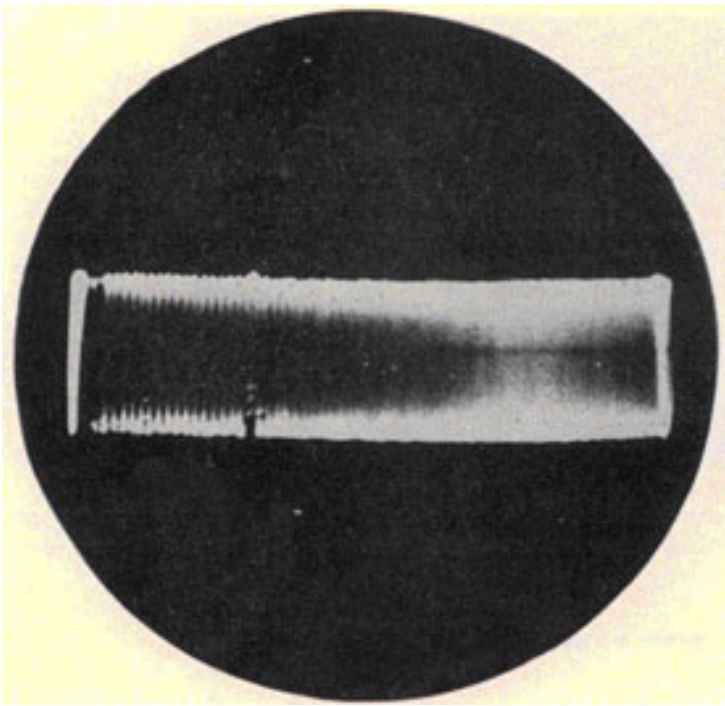

Figure 3-64. Medium-Frequency AM Jamming (Army radar).
A. Jamming modulation is non-synchronous. Striations in body of pattern are less visible than in Figure 3-64, Gain setting is normal. Pip causes break in baseline, and runs through the jamming pattern, but is almost invisible.